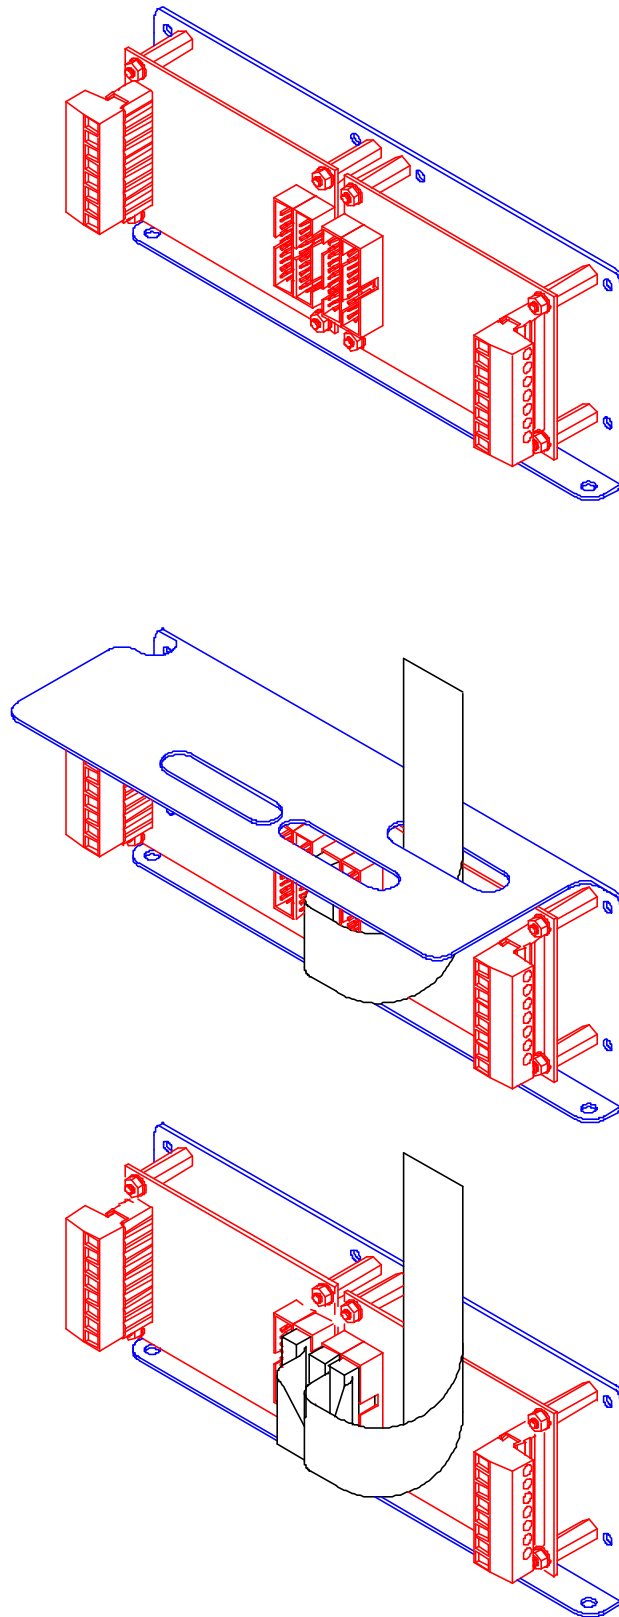

Figure 13-9: 665 Serial I/O Module Installation
1. Install the 4 aluminum standoffs included in each 60 Series Option Kit onto the studs on the mounting plate. See Figure 13-9 (the top of bracket is removed for clarity).